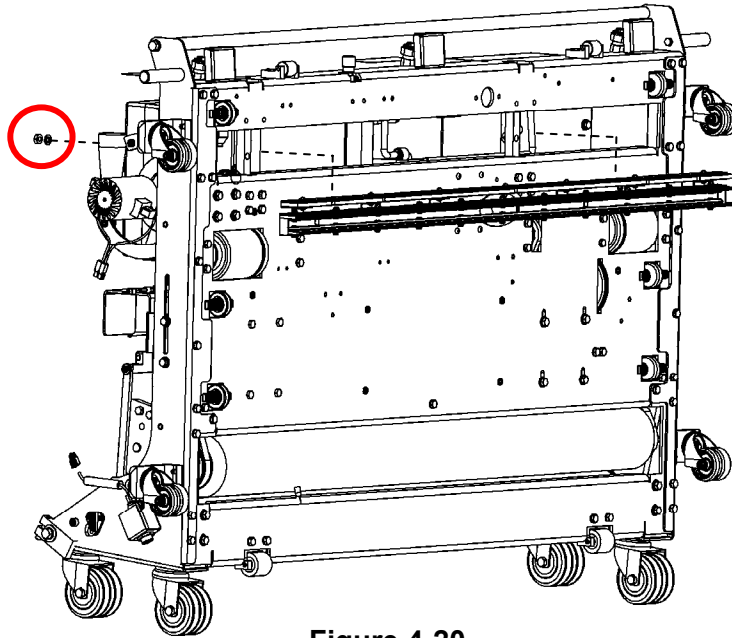

Figure 4-20
3. Loosen the screw on the vacuum hose clamp and remove the vacuum hose from the vacuum head. Remove the two nuts and washers to release the vacuum head from the pivot arms and remove the vacuum head from the **underside** of the machine as shown in Figure 4-20.